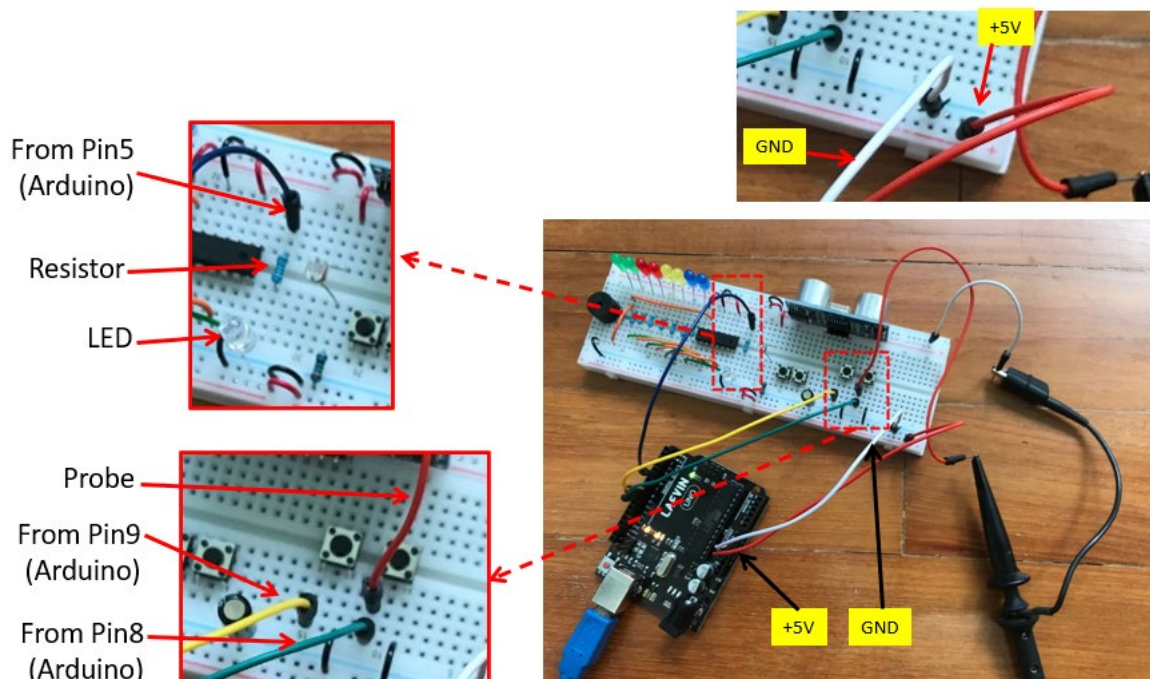

Fig 9: Hardware connections
- See Fig 9 for the connections. Note that if there are no separate power supply to the breadboard, you need to draw the power from Arduino Board's +5V. The photo in Fig.9 shows the +5V and Ground headers of Arduino board connected to the breadboard (the red and white wire from Arduino board).
- The photo in Fig.9 also shows how the oscilloscope probe needs to be connected to detect the voltage level at input pin of the processor. Crocodile clip connects to the ground and Probe tip connects to the target signal.